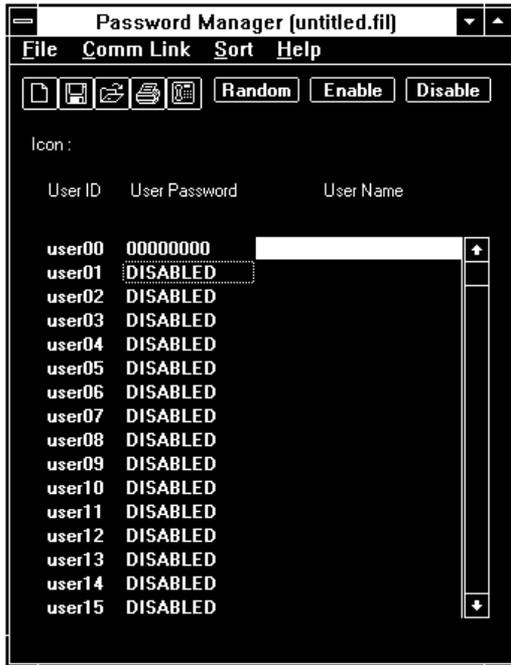

Figure 2-2. Main Password Manager Window
1. To start the Password Manager Program, double-click the Security icon. The main Password Manager window appears (see Figure 2-2).